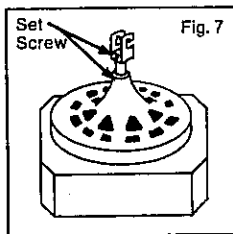

Fig. 7
- B.** Back out set screw in neck of fan motor housing and hanger bracket so pipe can be screwed in. Screw the pipe into the fan until tight (at least 4 1/2 turns). Feed wire through hanger bracket and screw hanger bracket onto pipe until tight (at least 3 turns). Then use pliers to tighten both hanger bracket and pipe together. Tighten the set screw in the motor housing with pliers. Securely tighten the set screw in the hanger bracket. See Figure 7.